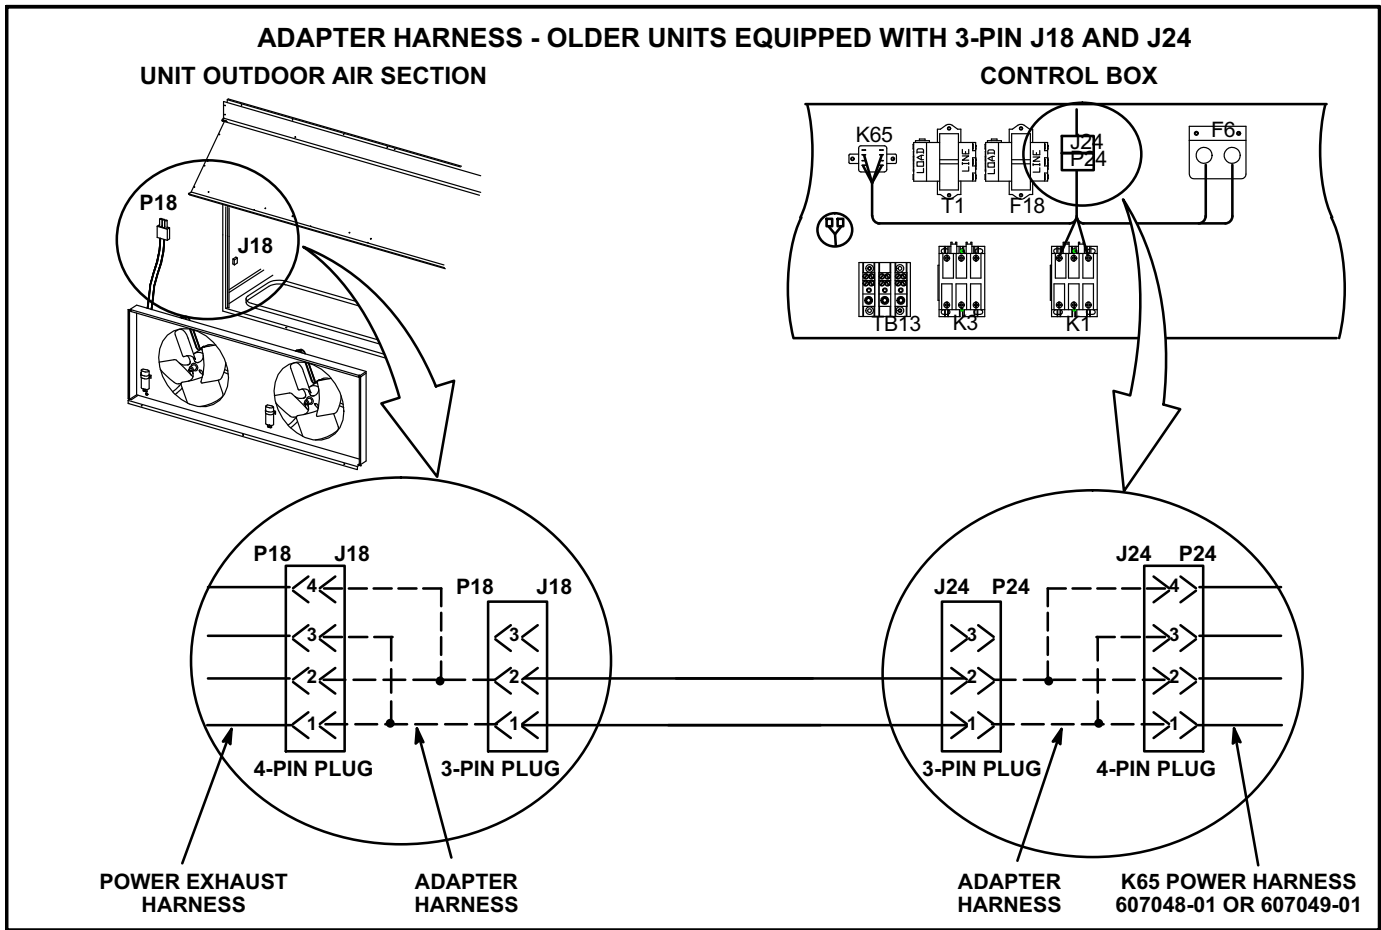

FIGURE 12
- Connect one 606805 adapter harness between J24 and P24 in the control area. Connect the other harness between J18 on the exhaust fan harness and P18 provided in the unit. See figure 12.